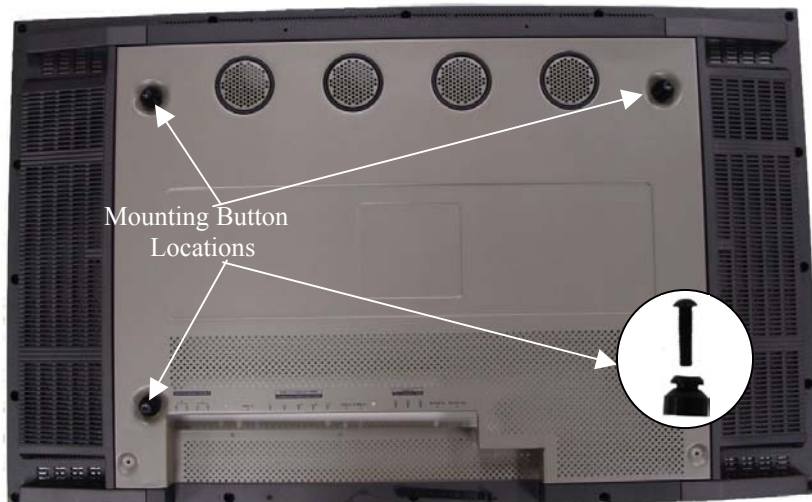

Figure 5
1. Attach four mounting buttons to display using four M8 x 35mm button head cap screws provided (see Figure 5).